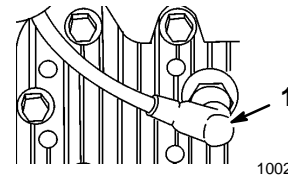

Figure 8
1. Pull the wire off of the spark plug (Fig. 8).
5. Connect the spark plug wire (Fig. 8).